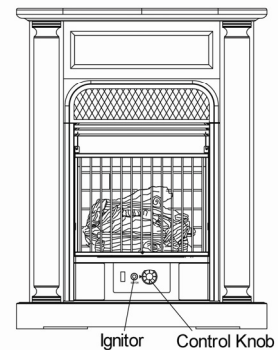

Figure 14
5. Turn control knob clockwise to the OFF position, see Figure 14.
6. Wait five (5) minutes to clear out any gas. Then smell for gas around heater and near floor. If you smell gas, STOP! Follow "B" in the safety information on Warnings plate. If you don't smell gas, go to the next step.
7. Turn control knob counterclockwise to the PILOT position. Keep control knob pressed in for five (5) seconds. **Note:** You may be running this heater for the first time after hooking up to gas supply. If so, the control knob may need to be pressed in for 30 seconds. This will allow air to bleed from the gas system. If control knob does not pop up when released, contact a qualified service person or gas supplier for repairs.
9. Keep control knob pressed in for 30 seconds after lighting pilot. After 30 seconds, release control knob. **Note:** If pilot goes out, repeat steps 3 through 8. This heater has a safety interlock system. Wait one (1) minute before lighting pilot again.